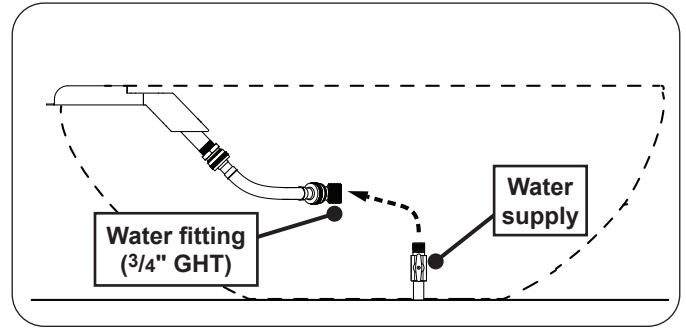

Fig. 33-1 Connect water supply (if applicable)
2. Plumb the water supply to the $\frac{3}{4}$ " GHT fitting (see Fig. 33-1).